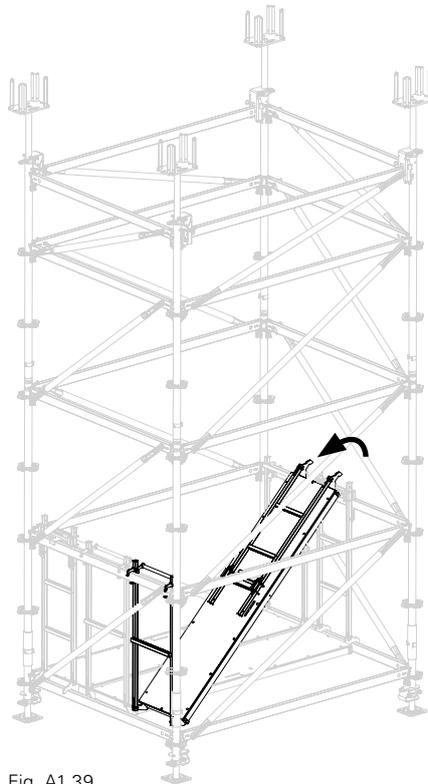

Fig. A1.39
2. 3. Fold the last deck - turned by 180° - in the same way as the first one. (Fig. A1.39 + A1.40)